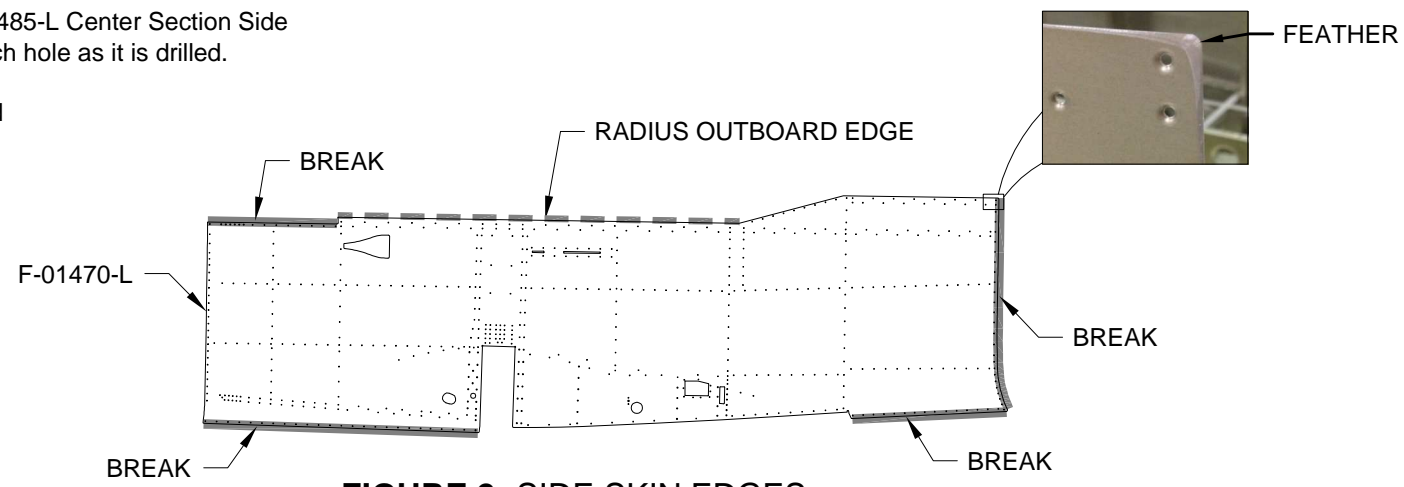
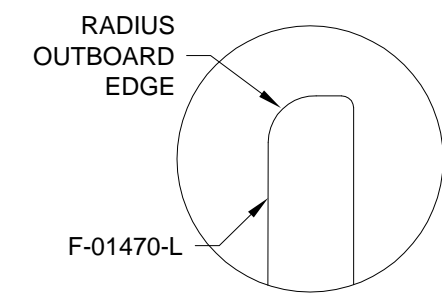

FIGURE 2: SIDE SKIN EDGES
FIGURE 3: SIDE SKIN EDGE RADIUS
Step 4: Break the indicated edges of the side skin inboard slightly. See Figure 2.
Step 5: Use a file and sanding blocks to radius the top outboard edge of the side skin. See Figure 2 and Figure 3.
Step 7: Use a file and sanding blocks to radius and feather the outboard side of the upper aft corner of the side skin down to a narrow edge as shown in Figure 2.